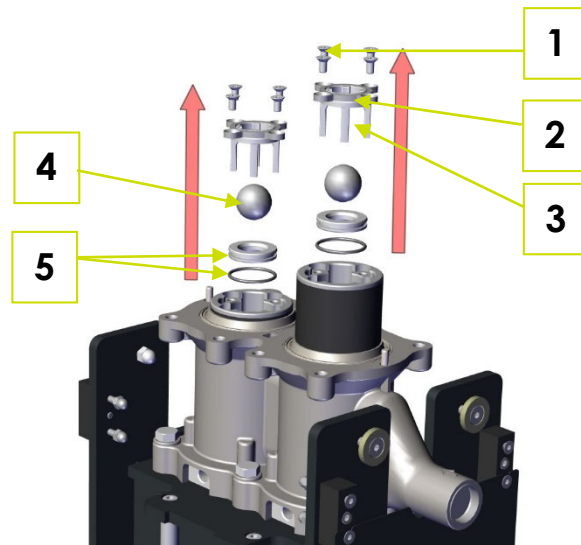

Fig. 6-1: Dismounting the media valves in the cylinder block
1. Unscrew all eight countersunk head screws M6x12 (1) with a T30 Torx spanner (Fig. 6-1: Dismounting the media valves in the cylinder block).
2. Take out both retaining stars (2).
3. Take out both cages (3) and balls (4).
4. Take out both valve seats (5) with the O-rings.